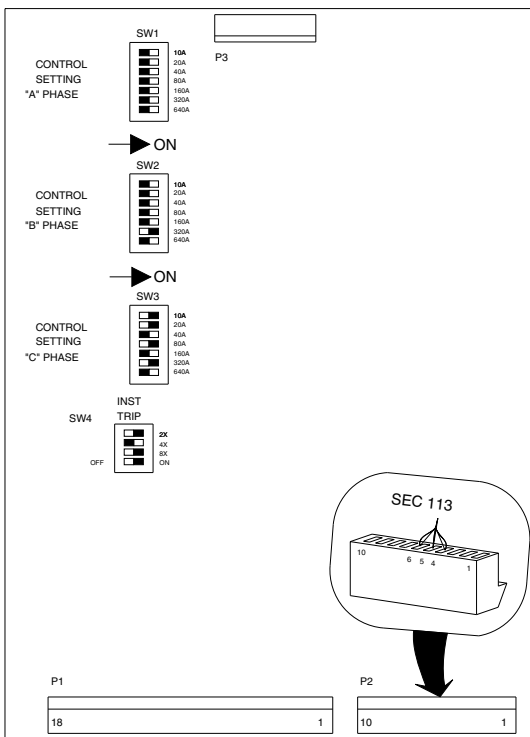

Figure 2.
1. Refer to Figure 2 and locate pin connector P2, which is in the lower right corner of the control board. Install the jumper connector, Part # SEC-113, on P2 as shown. The jumper connector is keyed (one side notched) to allow it to lock in place with P2 when properly installed. Do not force into place.